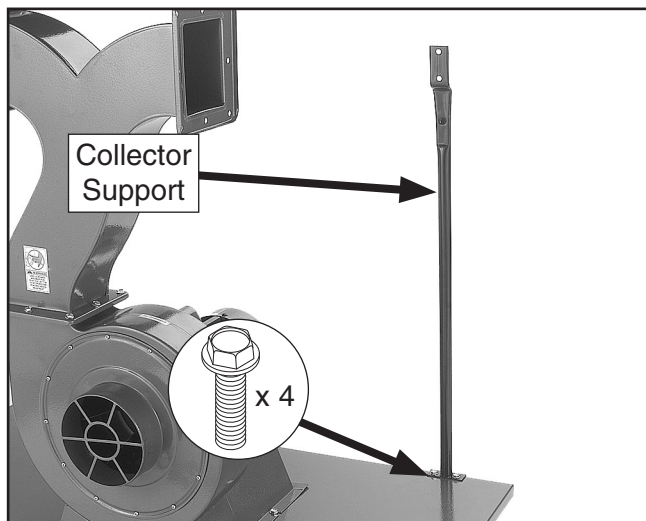

Figure 12. Canister support installed.
6. Align each of the collector supports with the mounting holes on the base, as shown in **Figure 12**, then secure them in place with (4) $\frac{5}{16}$ "-18 x $\frac{1}{2}$ " flange bolts.